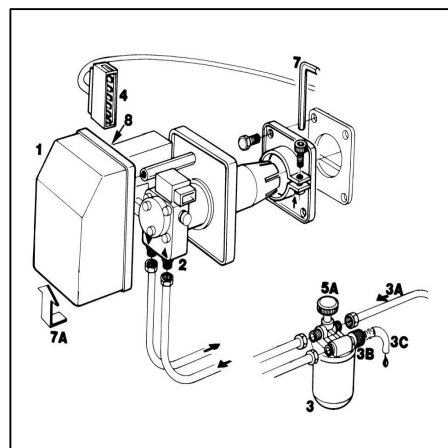

Figure 10
5. Starting of the oil burner (see figure 10):